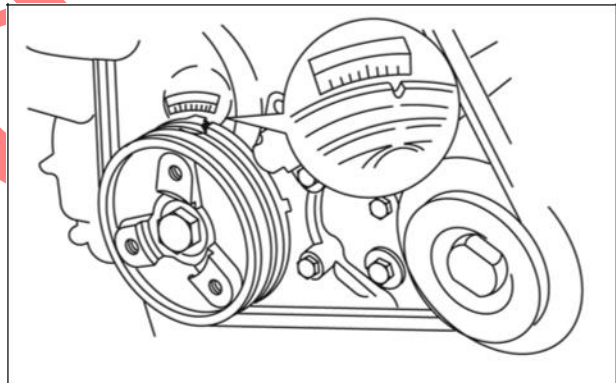

Figure 39
1. Before adjusting valves, make sure that the Number 1 cylinder is at Top Dead Center (TDC) - Compression Stroke (Figure 39).